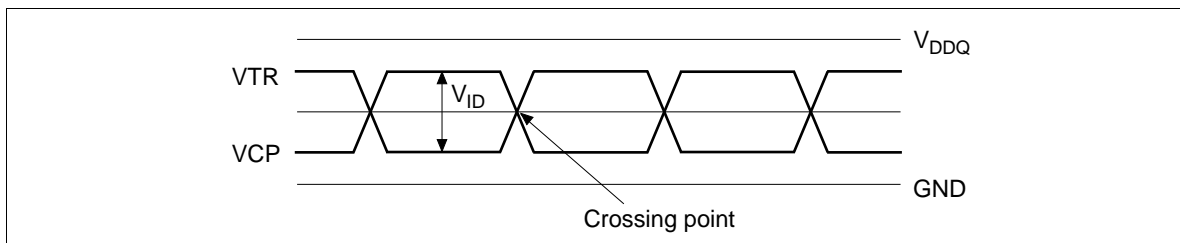

Figure 1-1 Differential input levels
3. Differential cross point voltage is expected to track variations of  $V_{DDQ}$  and is the voltage at which the differential signals must be crossing. (See figure1-1)